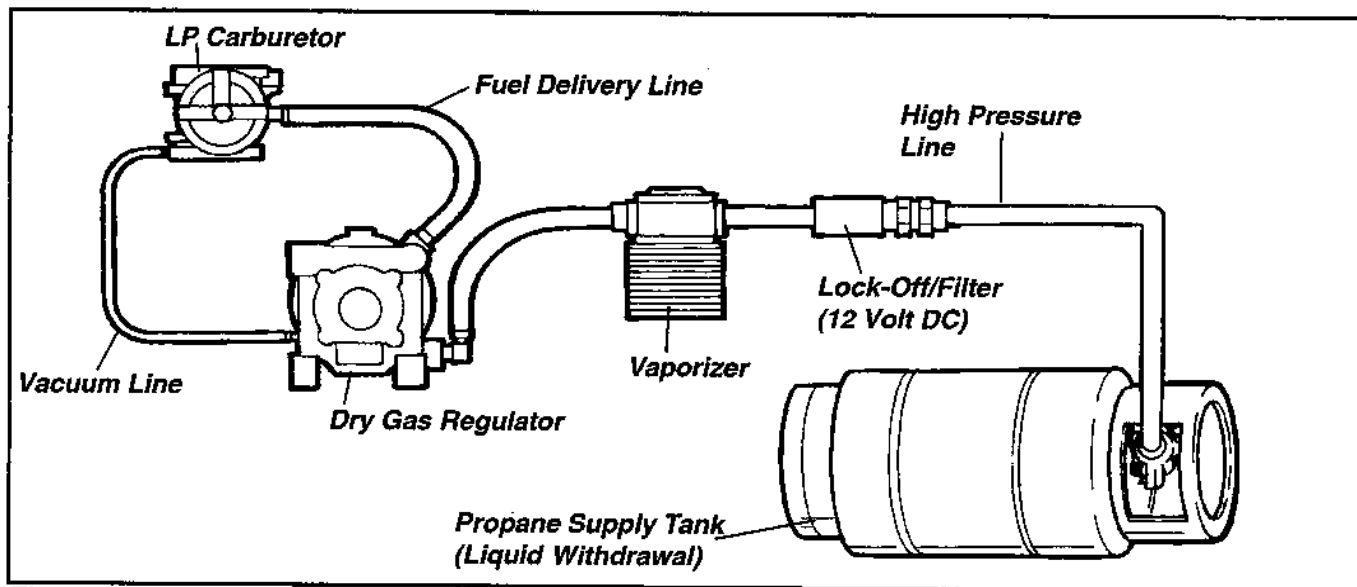

Figure 13. Schematic Showing Components of LP System.
This opens, closes, and filters the liquid fuel flow from the supply tank before reaching the vaporizer. Servicing, if required, is to be performed by an authorized Kohler Engine Service Dealer or qualified LP personnel only. See Figure 13.
The vaporizer changes the Liquefied Petroleum (LP) from the supply tank to a gaseous/vapor state. Other than keeping the body clean, no maintenance, adjustment, or servicing is required. See Figure 13.